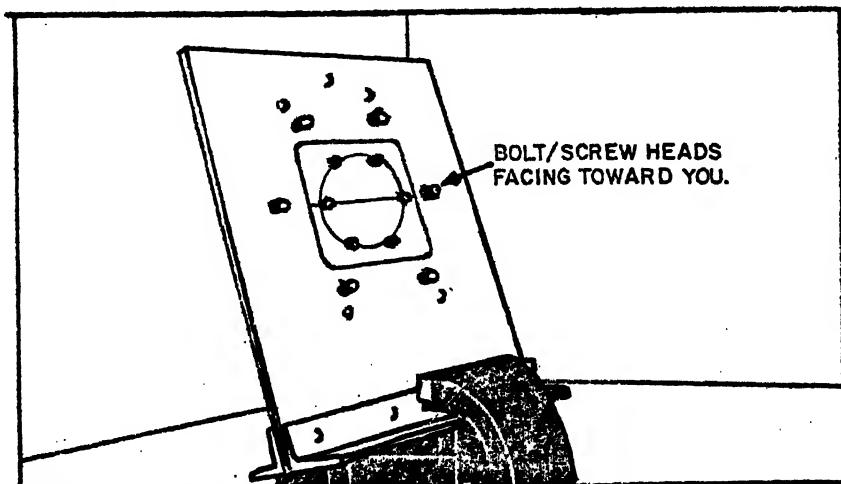

FIGURE 12
STEP 1: Reposition shop fixture in vise. Clamp fixture vertically in vice, with boltheads and screwheads facing you. See figure 12.